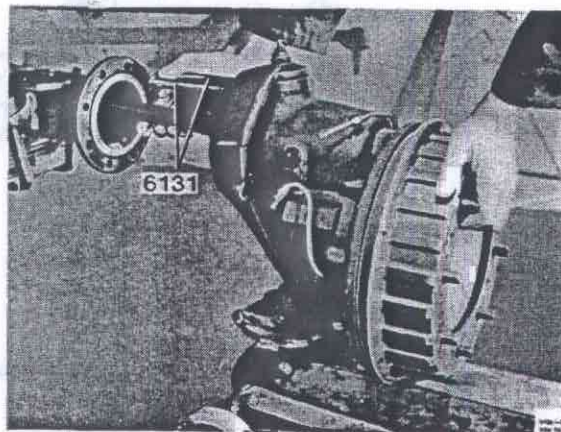

Fig. 63-16. Fitting the wheel carrier
2. Fit the two guide pins 6131 in the upper holes of the steering knuckle support, see Fig. 63-16. Place the wheel carrier on a jack and lift the